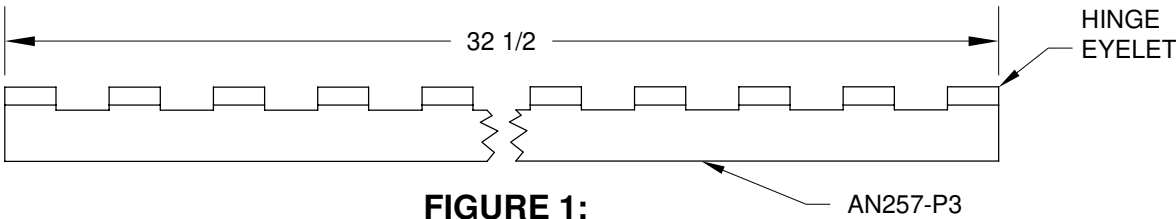

FIGURE 1:
Step 1: Remove the hinge pin from one AN257-P3X6' (also known as MS20257-3) Piano Hinge. From each hinge half cut two lengths per the dimensions given in Figure 1.
Locate cuts so that there are hinge eyelets at both ends of all four hinge halves as shown in Figure 1.